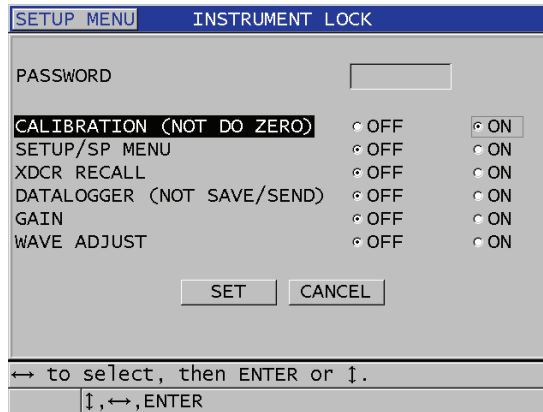

Figure 8-9 The INSTRUMENT LOCK screen
3. In the **INSTRUMENT LOCK** screen (see Figure 8-9 on page 121):